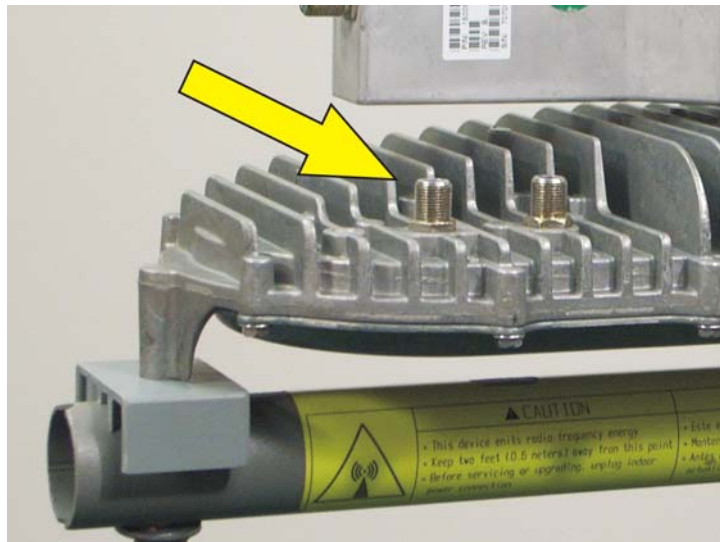

Figure 31: Transmit connector
2. Connect the Tx cable (marked with blue electrical tape) to the transmitter connector marked *IFL*, shown in Figure 31.